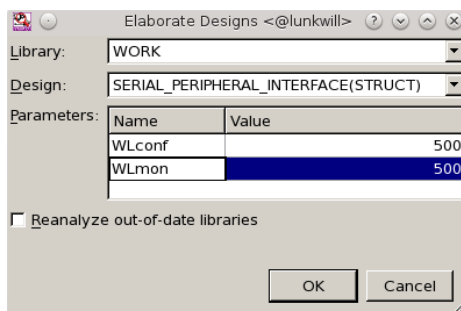

Figure 2.3: Elaborate Designs window.
1. Select **File** → **Elaborate...** The window shown in Figure 2.3 appears.